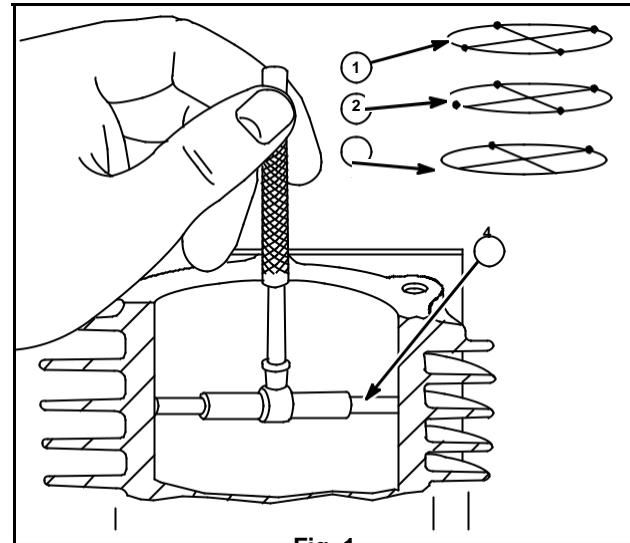

Fig. 1
Use Telescoping Gauge (4), Tool #19404, shown in the middle (2) position, Fig. 1, with a dial caliper, or use an inside micrometer to measure bore size at right angles to cylinder bore.